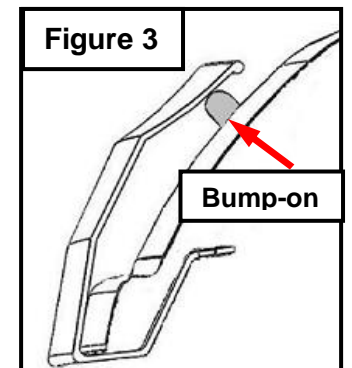

Figure 3
7. Attach rubber bump-on to the factory hood where the corners of the Hood Shield are closest to the hood. **(Figure 3)** **Clean area first with isopropyl alcohol and remove adhesive backing from bump-on and apply to hood.**